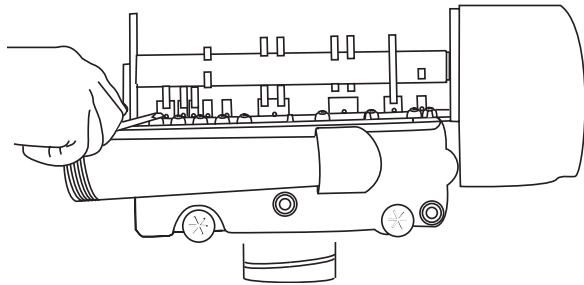

Figure 5.2
3. Remove cover and with screwdriver, relieve tank pressure by pushing open valve No. 7 (rear flapper) on control as shown (Figure 5.2).